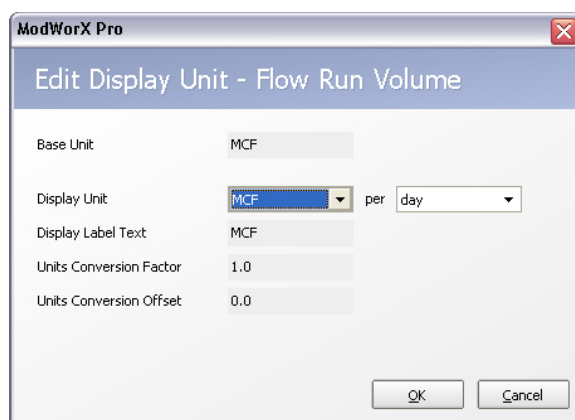

Figure 4.4
- a. Click **Edit** to change the flow volume unit, if desired. The Edit Display Unit dialog will appear (Figure 4.4). The base unit is the unit in which the Scanner measures flow.